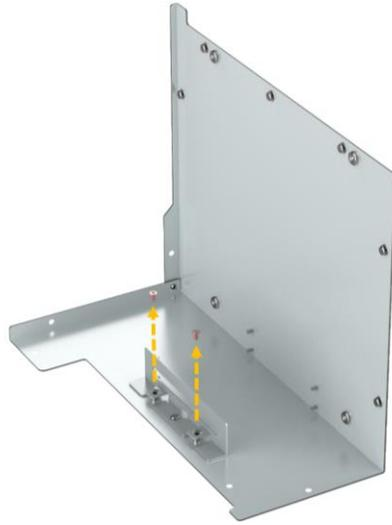

Figure 3-8: Detach the Hard Drive Bracket
Step 1: Detach the hard drive brackets from the cover by removing the two retention screws (**Figure 3-8**).